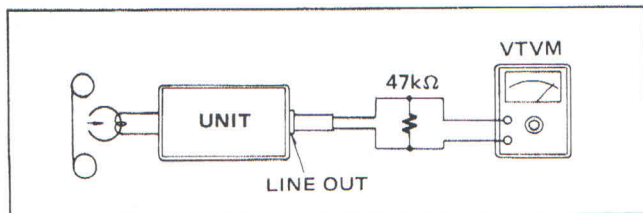
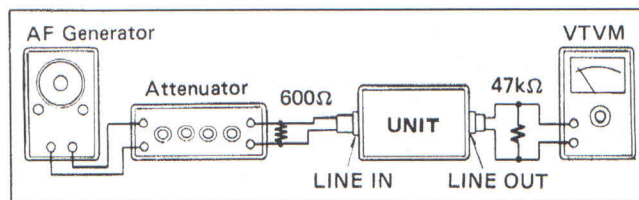
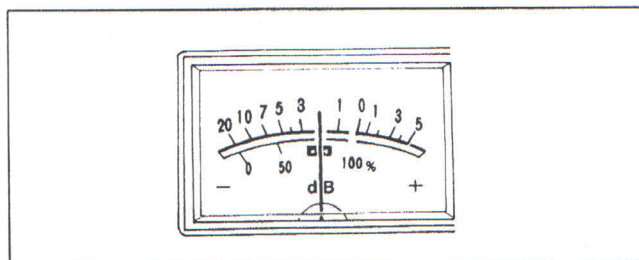
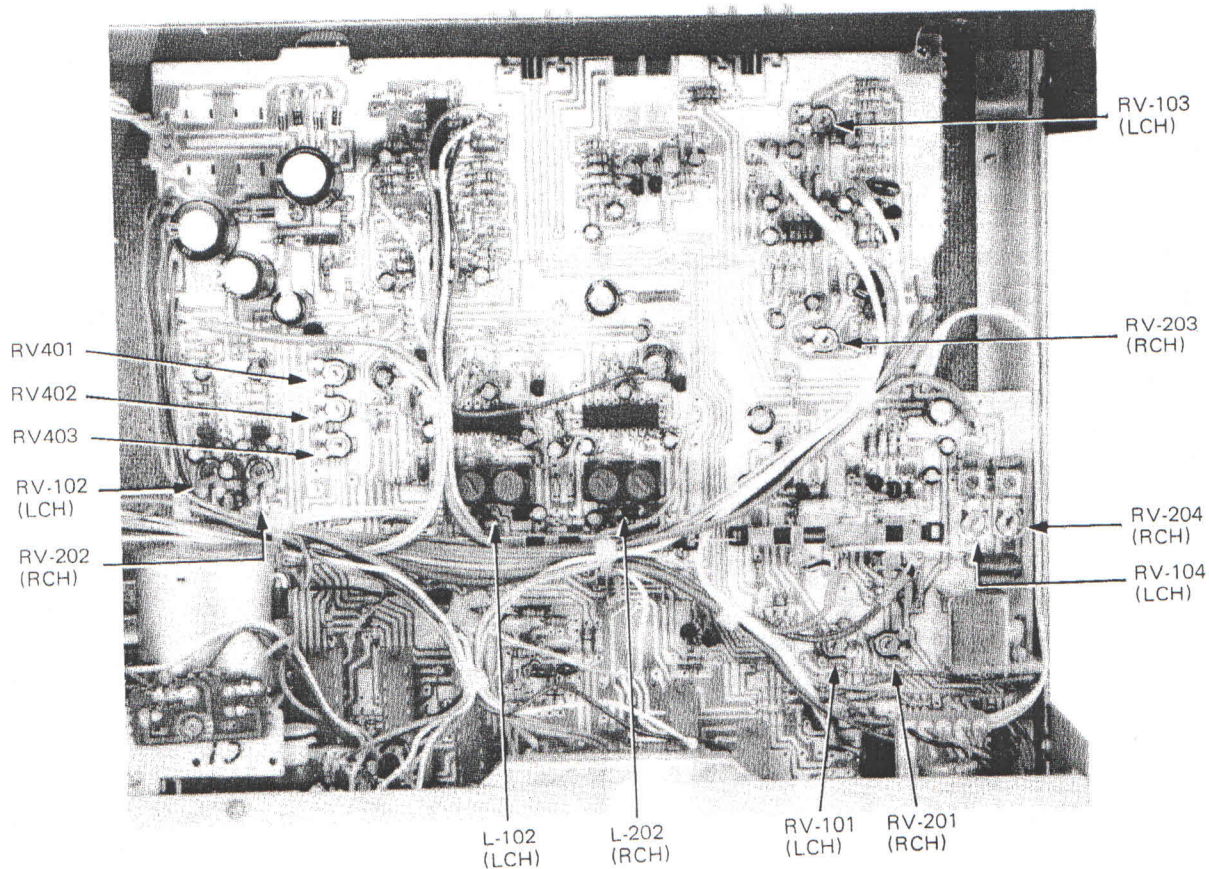

Fig. 4-1
Fig. 4-2
Fig. 4-3
Fig. 4-5
- Set the test equipments as shown in Fig. 4-1.
- Adjust RV101, RV201 to obtain -4dBs (0.49V) on the VTVM. (Fig. 4-5).
- Set the test equipment as shown in Fig. 4-2.
- Adjust L102 and L202 (Fig. 4-5) to obtain the minimum output (less than -30dB) on the VTVM. (Fig. 4-2)
- Adjust RV103, RV203 (Fig. 4-5) so that the VU meter indicates -2dB (DOLBY LEVEL) on the VU meters. (Fig. 4-3)
- Connect the VTVM as shown in Fig. 4-1, and playback the tape just recorded.
- Adjust RV102, RV202 (Fig. 4-5) to obtain -14dBs on the VTVM.
4. Connect the VTVM as shown in Fig. 4-1, and playback the tape just recorded.
5. Adjust RV104, RV204 (Fig. 4-5) so that the level at 10kHz should be the same referred to the 333Hz signal.
2. Connect the VTVM as shown in Fig. 4-1, and playback the recorded tape.
3. Playback the tape just recorded: when the tape recorded with Dolby HX switch in OFF position is played back, place the Dolby HX switch in OFF position; and when the tape recorded with the HX switch in ON position place the switch in ON position. Note the playback output levels for each tape. Adjust RV401 (Normal), RV402 (CrO₂), and RV403 (FeCr) so that the playback output level obtained for the tape recorded with HX ON is within 0-+2dB referred to the level obtained for the tape recorded with HX OFF. (Fig. 4-5) (Fig. 4-1)